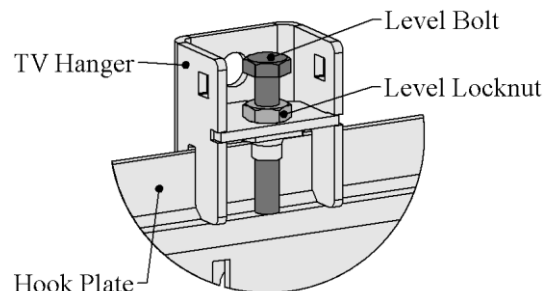

Figure 13, TV Level Fine Tuning (Detail from Figure 2)
2. Figure 13 shows the parts for Leveling